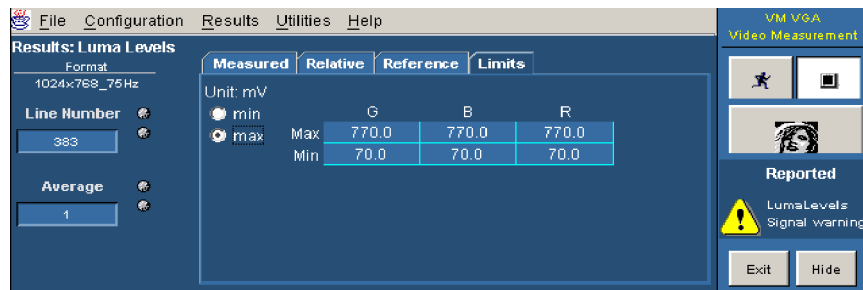

Figure 3-73: Limit values for the Luma Levels measurement
- Select the **min** option to display the minimum limit values for the measurement. Select the **max** option to display the maximum limit values for the measurement. Refer to Figure 3-73.